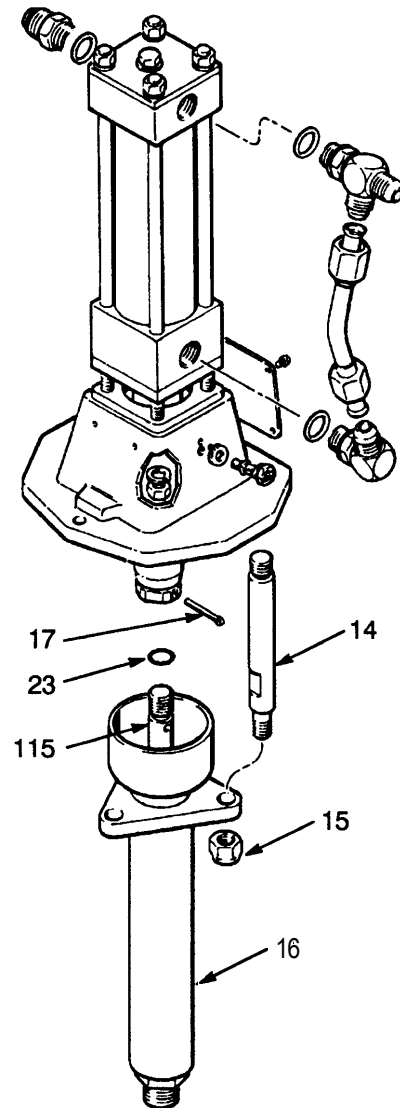

Fig 4
**Removing the Displacement Pump (See Fig 4)**